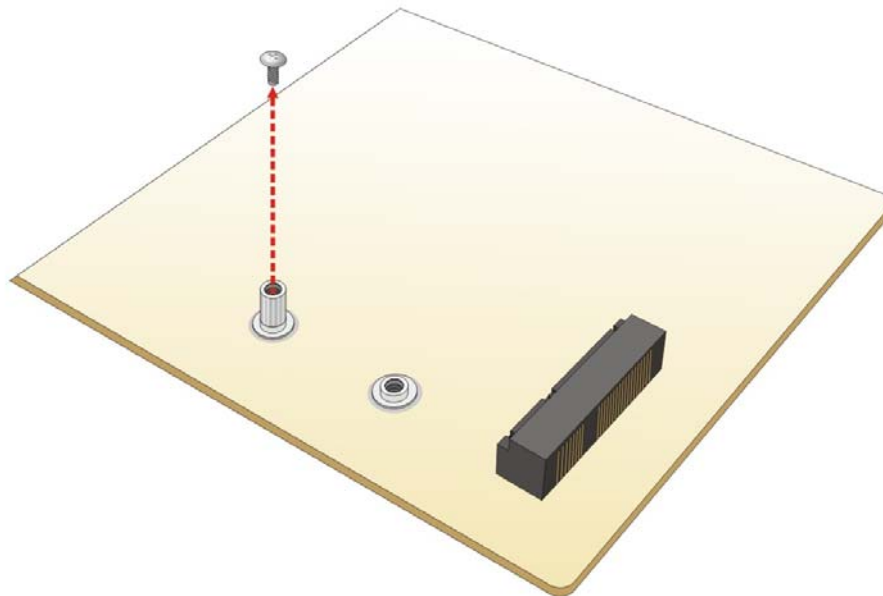

Figure 4-8: Removing the Retention Screw
Step 3: Remove the retention screw. Remove the retention screw as shown in **Figure 4-8**.